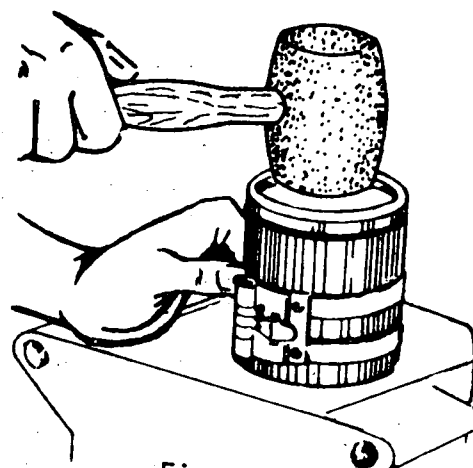

Fig. 4
- d) Mount the piston inside the cylinder with the seal compressor. Tap it lightly with a rubber mallet (Fig. 4).